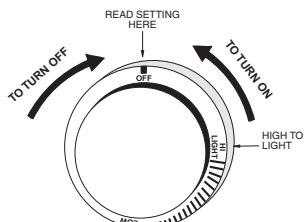

Figure 11 - Valve Control Knob
5. Push either gas valve and turn to 'HIGH' then immediately use the spark generator to ignite your burners (see Figure 11). The burner should light.